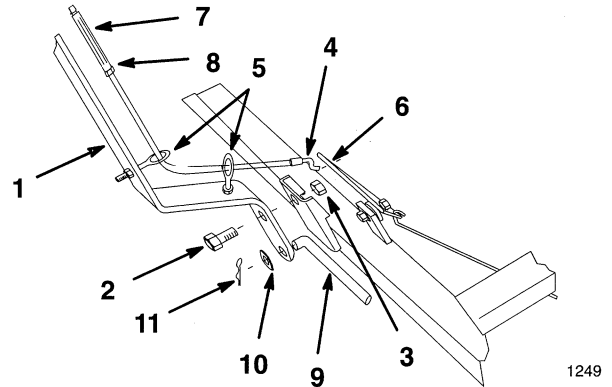

Figure 2
3. Attach index lever to frame bracket with bolt and nut (Fig. 2). Install eyelets with lock nuts.
4. Route cable through eyelets and attach "Z" end to outer hole of index plate (Fig. 2).
5. Adjust turnbuckle so the index pin is pulled out of channel when the release lever is squeezed, for easy side-to-side movement (Fig. 2). Tighten jam nut securely.